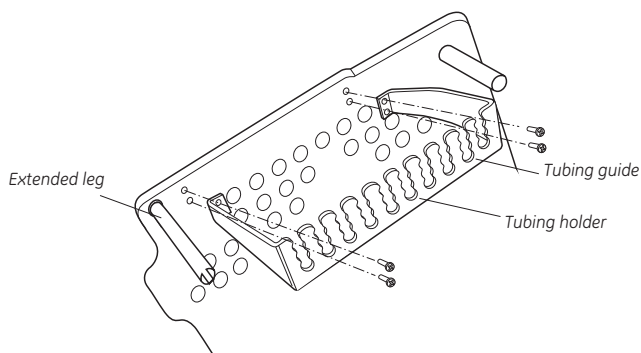

Figure 2-20. Attaching the Tubing guide.
- 2 Attach the Tubing guide to the rack as shown in Figure 2-20.